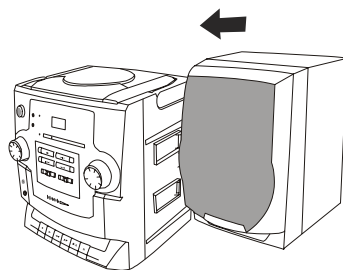

FIG. 1
**NOTE:** The right and left speakers are **NOT** interchangeable. The right speaker fits **only** on the right side (as shown in FIG. 1). The left speaker fits **only** on the left side.